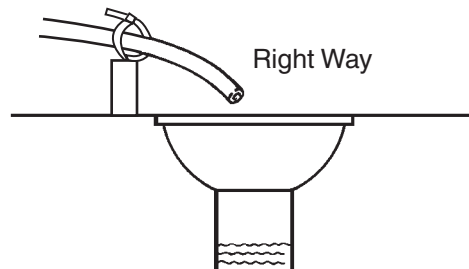

Figure 11 Drain Line Connection
**⚠ WARNING:** Never insert drain line directly into a drain, sewer line, or trap (Figure 11 Drain Line Connection). Always allow an air gap between the drain line and the wastewater to prevent the possibility of sewage being back-siphoned into the softener.